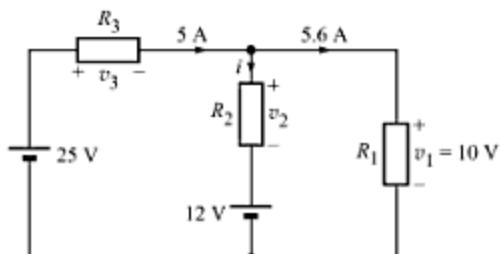

Fig. 3.68
9. Use KCL, KVL and Ohm's law to find  $v_2$ ,  $v_3$ ,  $i$ ,  $R_1$  and  $R_3$ , in the circuit of Fig. 3.68.